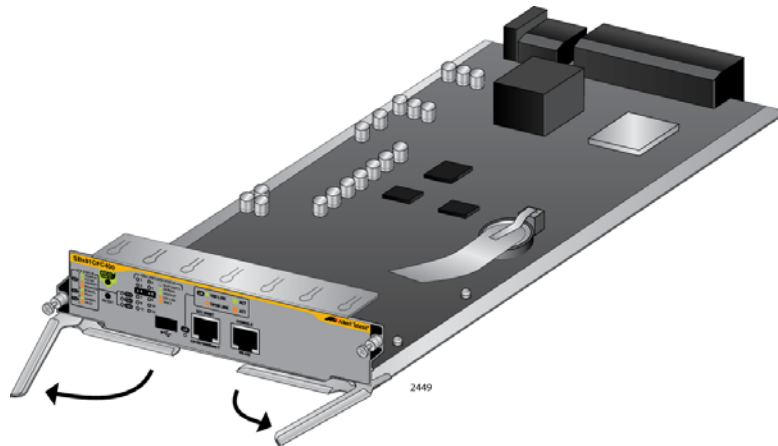

Figure 71. Opening the Locking Handles on the AT-SBx81CFC400 Controller Fabric Card
4. Move the locking handles on the front panel to the open position, as shown in Figure 71 on page 136.